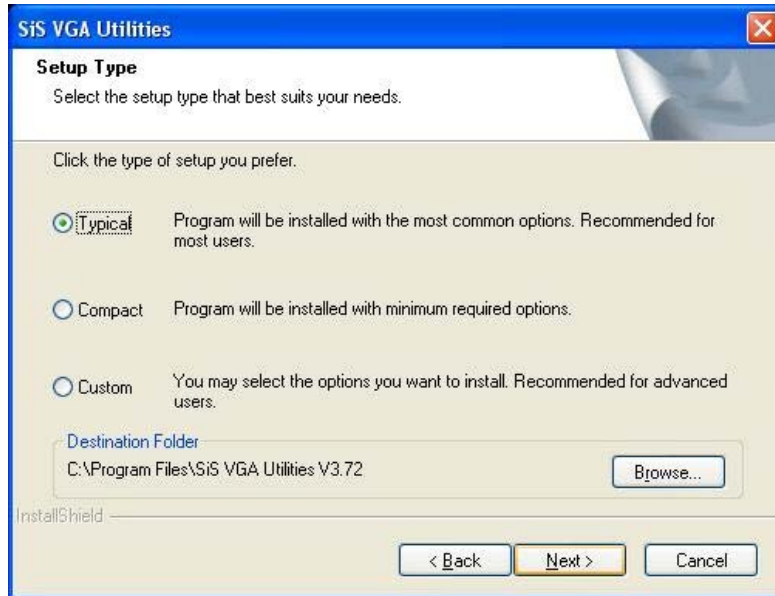

Figure 6-22: Select Setup Installation Type
- Step 2:** The **Setup Type** screen appears (**Figure 6-22**). Select the preferred setup type and click **NEXT** to continue the installation.